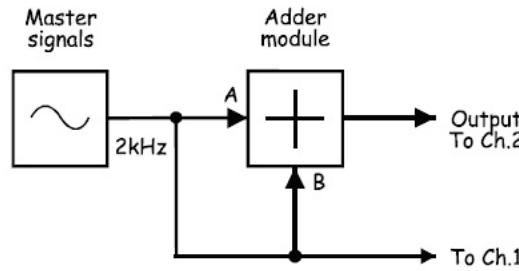

Figure 8: Adder example.
- Connect the setup in Figure 8 and adjust the gains of input A to 1 and input B to 0.5.